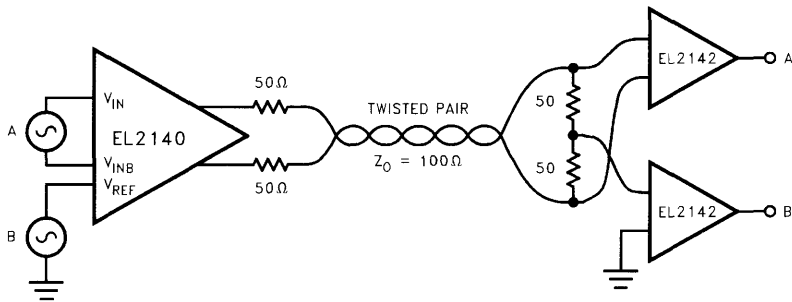

Figure 5. Dual Signal Transmission Circuit
$$\text{DC Gain} = \frac{R1 + R2 + R3}{R2} \text{ (See Figure 5)}$$
$$\text{(HF) Gain} = \frac{R1 + (R2/R4) + R3}{(R2/R4)} \text{ (See Figure 5)}$$